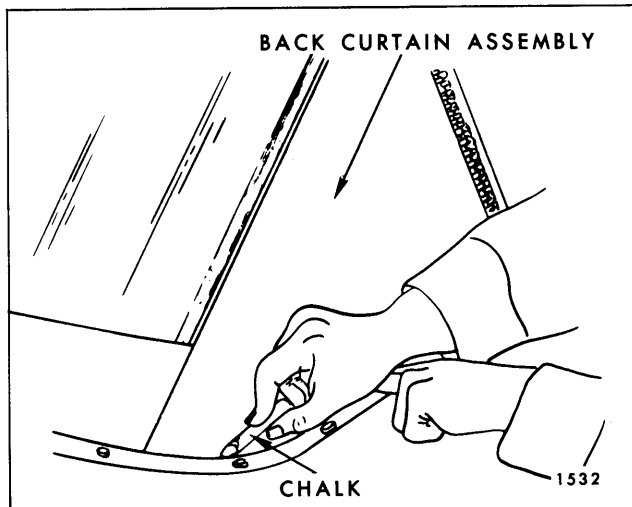

Fig. 13-17—Marking Back Curtain
16. Where required, place reference chalk mark on outer surface of back curtain along pinchweld finishing molding. Re-adjust back curtain assembly as required (Fig. 13-17).